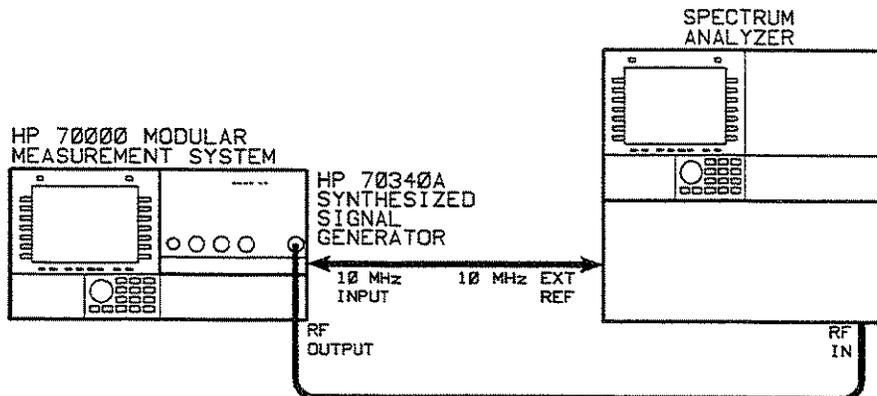

Figure 1-8. Harmonics Test Setup
1. Connect the equipment as shown in Figure 1-8.